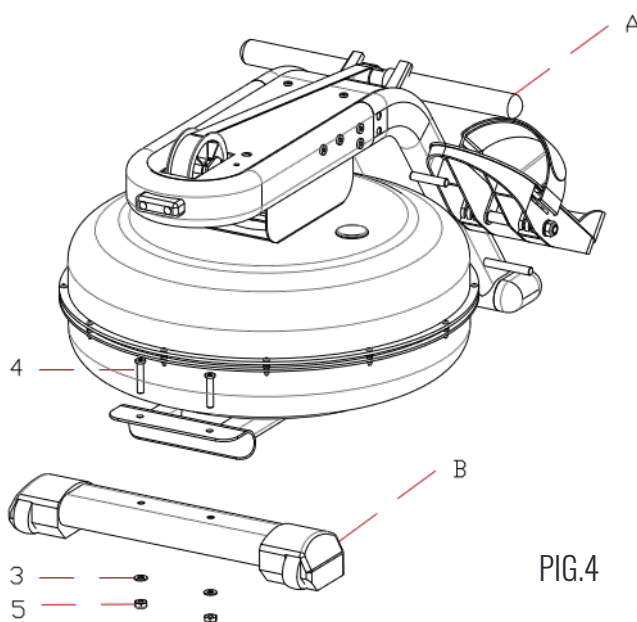

FIG.4
Take out the forefeet tube(B), whole rower machine(A), step bolt M8*55(1) 2PCS, washer $\phi 8$ (2) 2PCS and cap nuts M8(3) 2PCS in the component bag. Use #5 wrench and cross wrench to assemble it as shown in FIG.4.